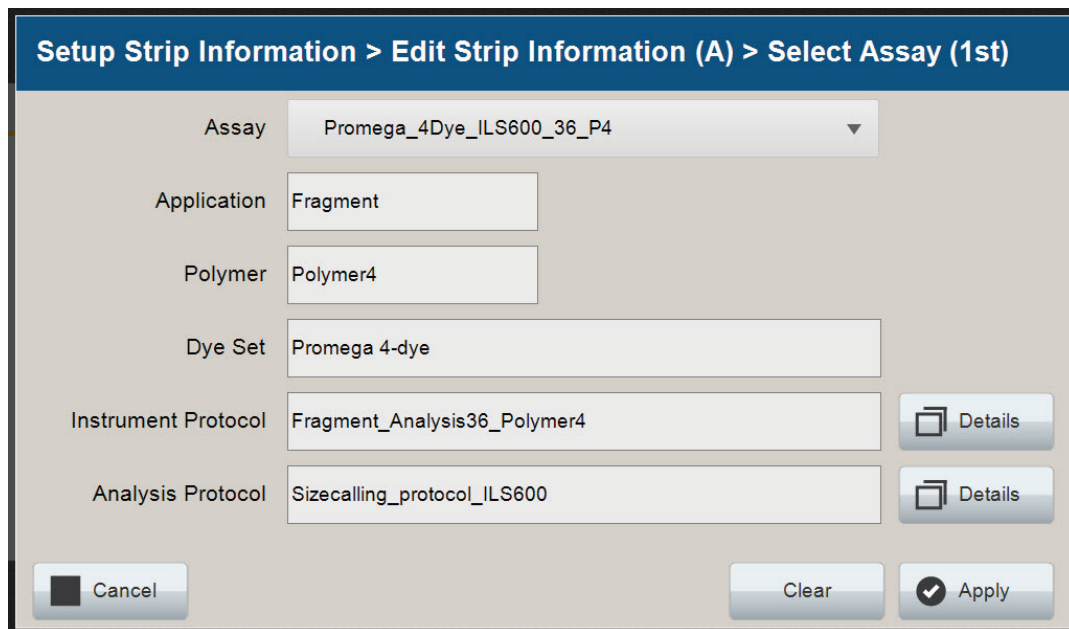

Figure 16. Accessing Instrument and Analysis Protocols on 'Select Assay' window.
8. You can verify the settings of the Instrument Protocol and Analysis Protocol associated with the assay chosen by selecting **Details** next to these fields (Figure 16). This will display a window showing the settings in these protocols but will not allow you to edit these settings. Refer to the *Spectrum Compact CE System Operating Manual* #TMD058 to edit the Instrument Protocol or Analysis Protocol. When the assay information is confirmed, select **Apply** to return to the 'Edit Strip Information' screen.